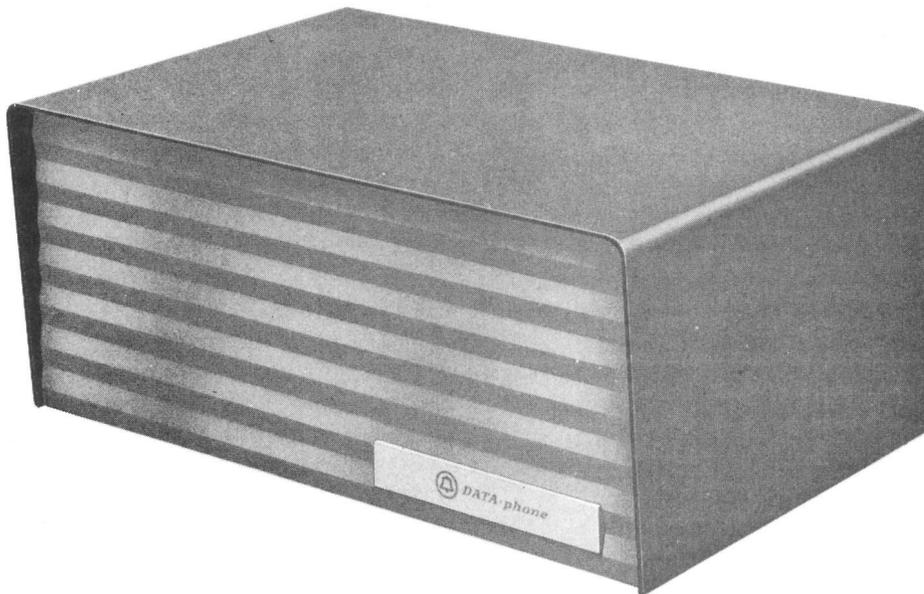

Fig. 1—Data Set 201-Type (List 1 Chassis)—Front View
**1.03** Data sets 201A- and 201B-list type (Fig. 1) are medium-speed, 4-phase serial binary transmitter-receivers. Data set 201A is to be used on DATA-PHONE® service or private lines at 2000 bits per second (bps). Data set 201B is for use on private lines at 2400 bps.
2.01 Each data set 201A- and 201B-list type (Fig. 1) contains equipment per Table A and each is mounted in a dark gray housing with a light gray front panel. The data set cover is held in place by three captive retaining screws (Fig. 2). The set measures 7-3/4 inches high by 17-1/2 inches wide by 11-5/8 inches deep and weighs approximately 35 pounds.